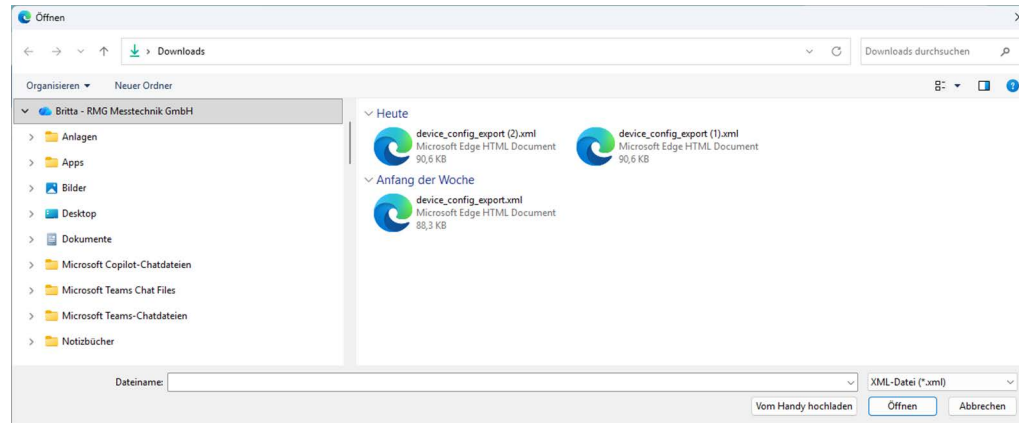

Fig. 118: Windows Explorer window
- ➔ A Windows Explorer window opens (see fig. 118)